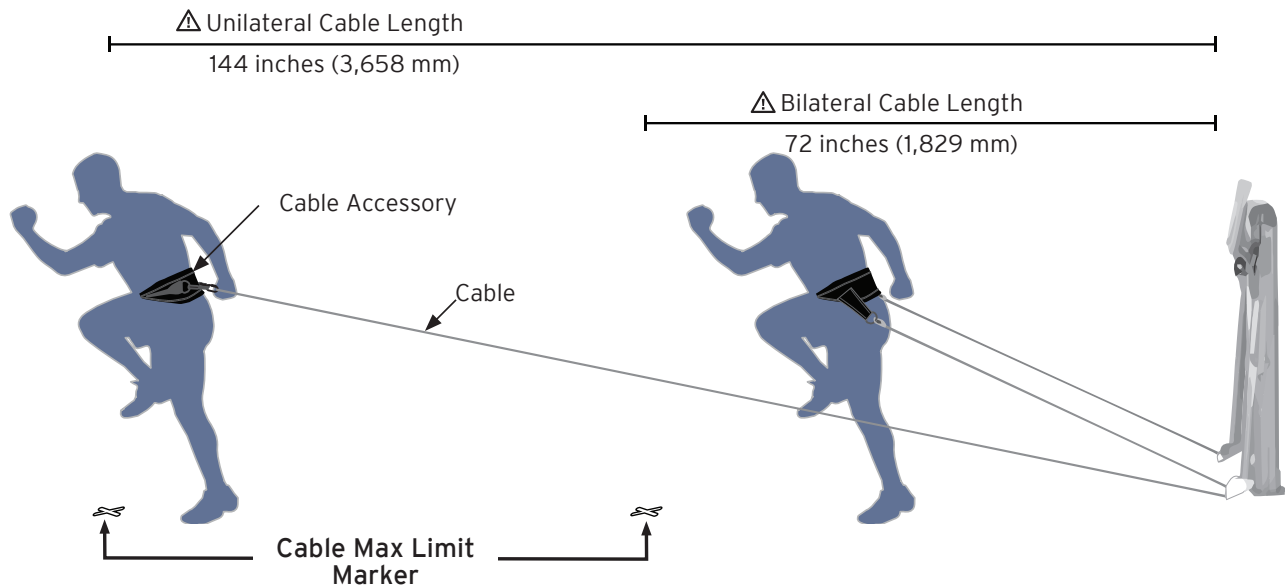

Figure 3. Maximum Cable Length Extension Illustration
- 2. Mark your Cable Max Limit:** Secure your Cable Accessory to the Cable. Walk your Cable Accessory out until the stop is reached. This is your Cable Max Limit. Place a marker on the floor (i.e. tape, keys, or a water bottle) to indicate your Cable Max Limit (see Figure 3).